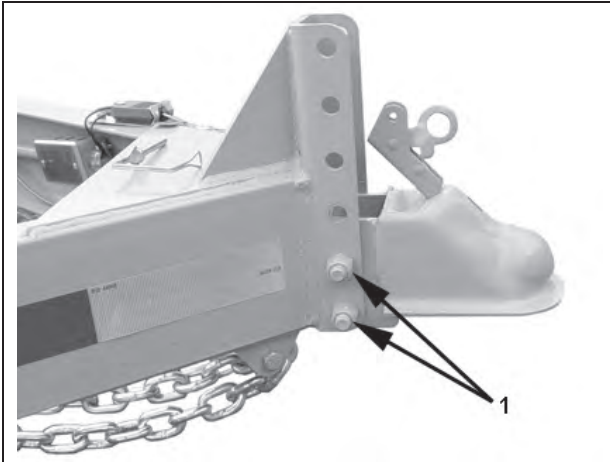

Figure 4-12 – Adjust Hitch Height
- Remove the lock nuts (1) and cap screws on hitch. **Discard** lock nuts. See figure 4-12
- Install cap screws and **NEW** lock nuts (1). See figure 4-12.